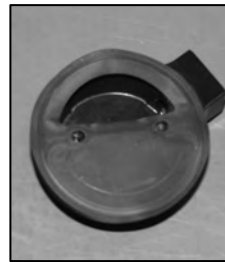

Fig 2
**NOTE: During reassembly, the opening on the valve body to bottom gasket must match the opening on the inlet. Installing this gasket incorrectly can result in no incoming fuel to the pump (Fig 2)**